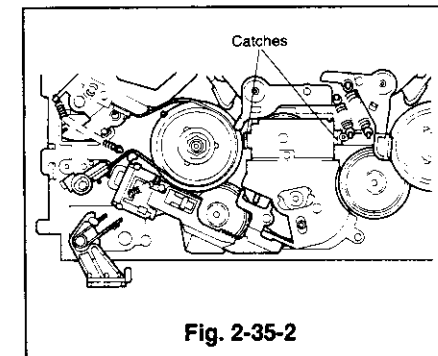

Fig. 2-35-2
- ② Remove the two screws (a) and (b) holding the reel idler assembly.
- ③ Unfasten the two catches shown in Fig. 2-35-2 and push the reel idler assembly to remove it, with the deck right side up.